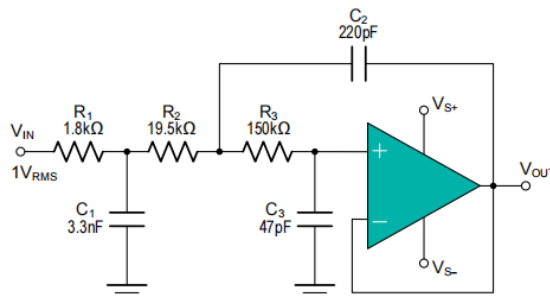

Figure 6: Configure as a Three-Pole, 20-kHz, Sallen-Key Filter
3. using a non-inverting filter topology, such as the Sallen-Key (shown in Figure 6)